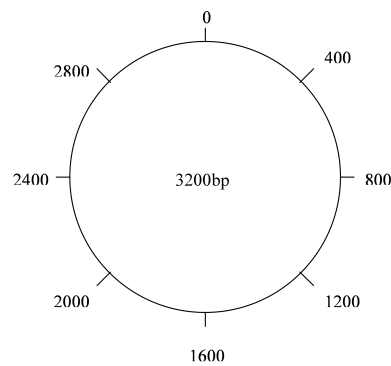

Figure 7. A sample template for a 3200bp plasmid.
- Determine the approximate total length (base pairs) of your plasmid. (How can you do this?) Use this number to draw a scale on your map. Start your numbering at 12:00 and continue in a clockwise direction (Figure 7).